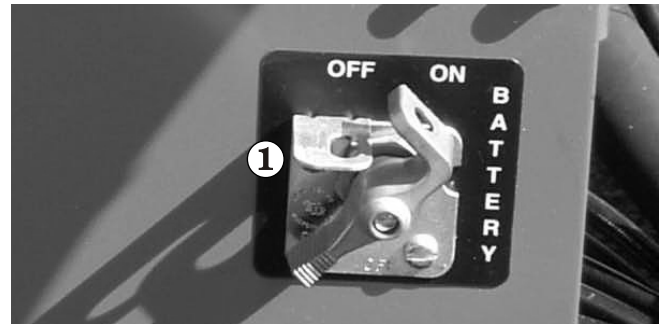

Figure 8.15
1. Set the **Battery** switch **1** to on (see Figure 8.15).